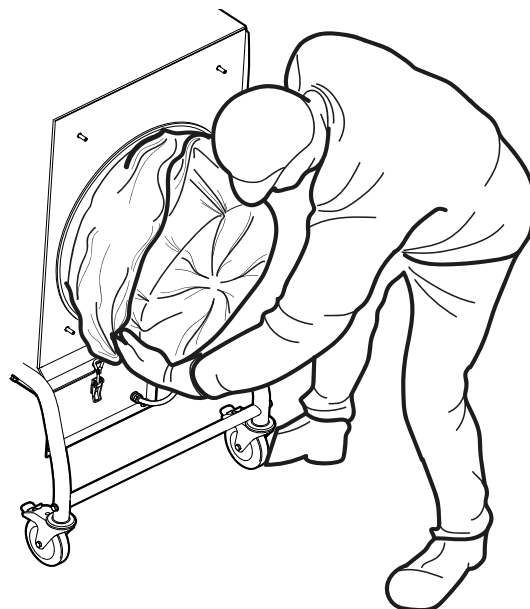

Fig. 21
8. Pull the filter bag CMF PCW3 over the filter cartridge (Fig. 21). Make sure the filter bag does not fasten on the brushes under the filter cartridge.